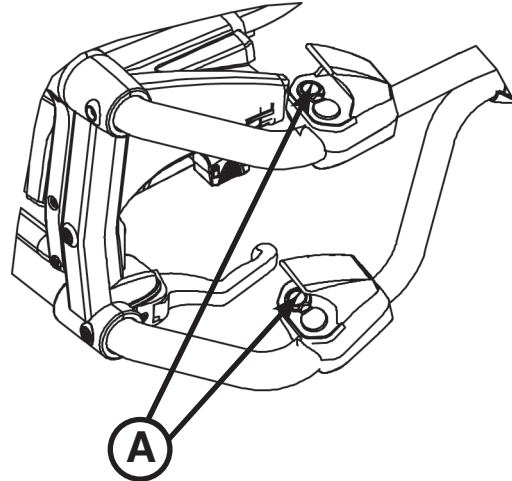
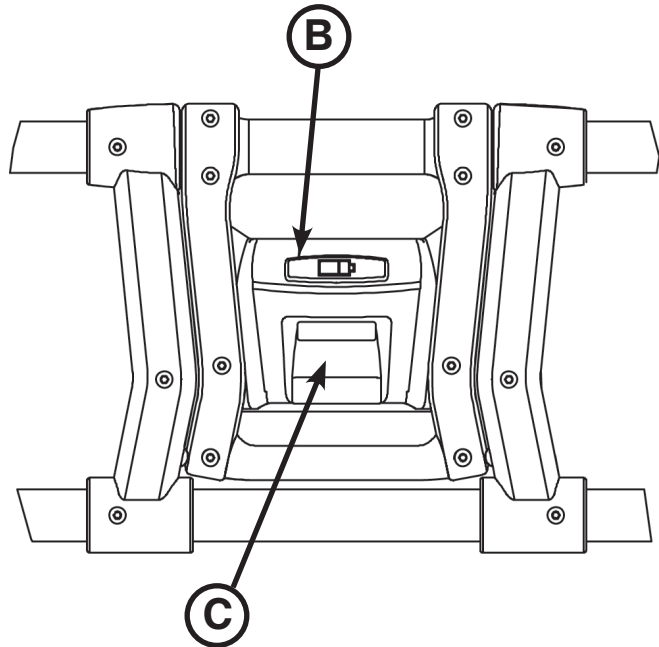

Figure 20
Figure 21
To check the battery power level, press the retract (–) button (A) as shown in Figure 20 on the cot control switch to activate the cot battery LED indicator (B) as shown in Figure 21 on page 34.
The hour meter (C), located on the foot end control enclosure, indicates the amount of time (HHH.H hours) that the hydraulics have been activated as shown in Figure 21. You can use the hour meter to determine the frequency for preventive maintenance procedures as listed on page 82.